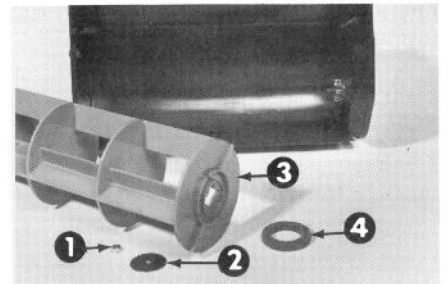

Figure 13
3. Remove the rotor and felt washer (Fig. 13).